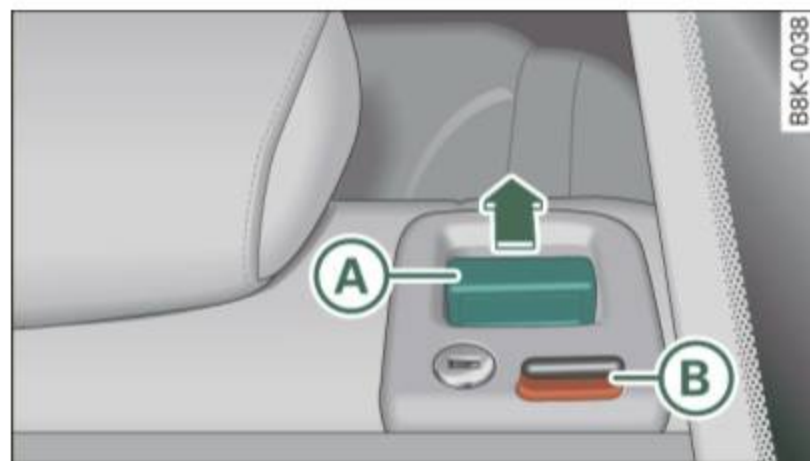

Fig. 93 Release handle on the seat back
- When you pull the release lever **A** ⇒ fig. 93 in the direction of the arrow, the safety knob **B** pops out far enough for the red marking on knob to be visible.